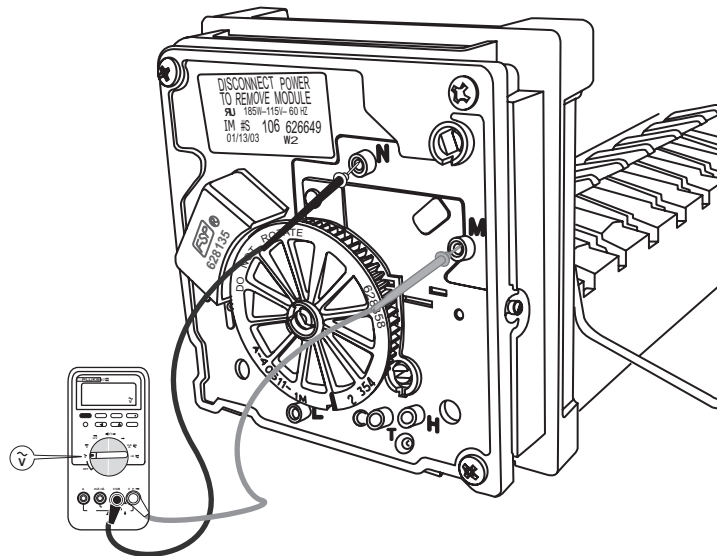

Figure 9-16. —Measuring voltage at stepper motor.
6. Set the multimeter to AC voltage function, then insert one probe into point N and the other into point M as Figure 9-16 shows.